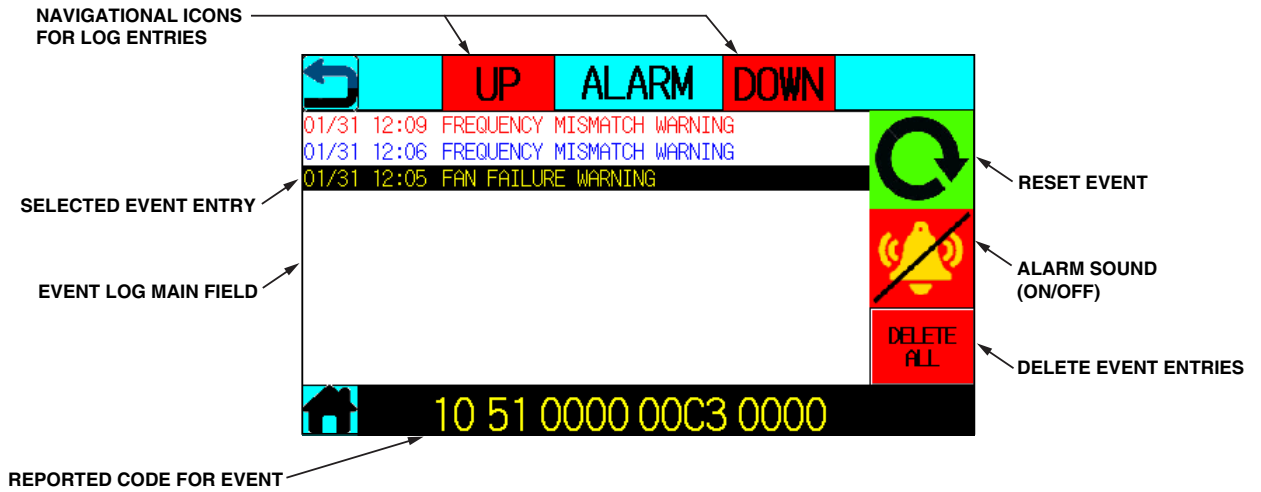
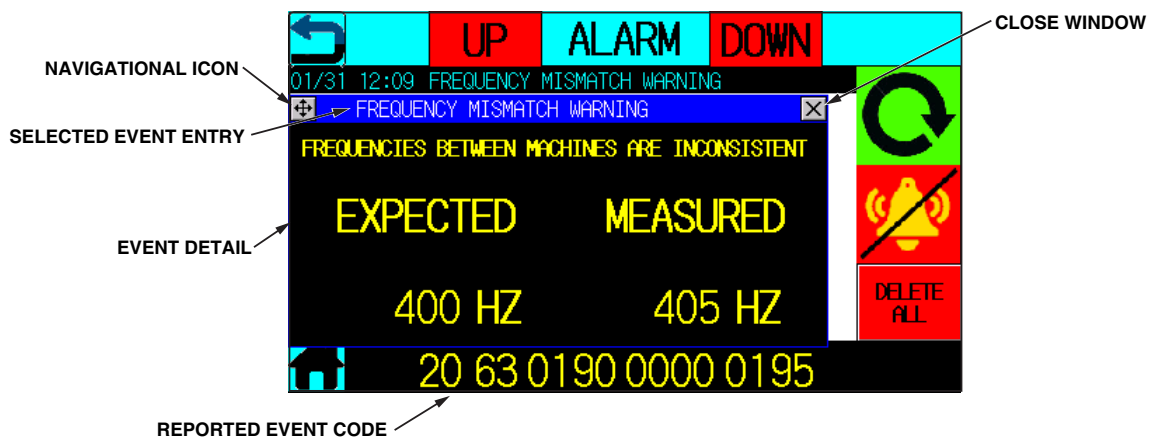

Figure 17. Event Log Screen
Figure 18. Event Detail
4. View the Event Log on the Alarm screen. Refer to Figure 17 and Figure 18 for details.